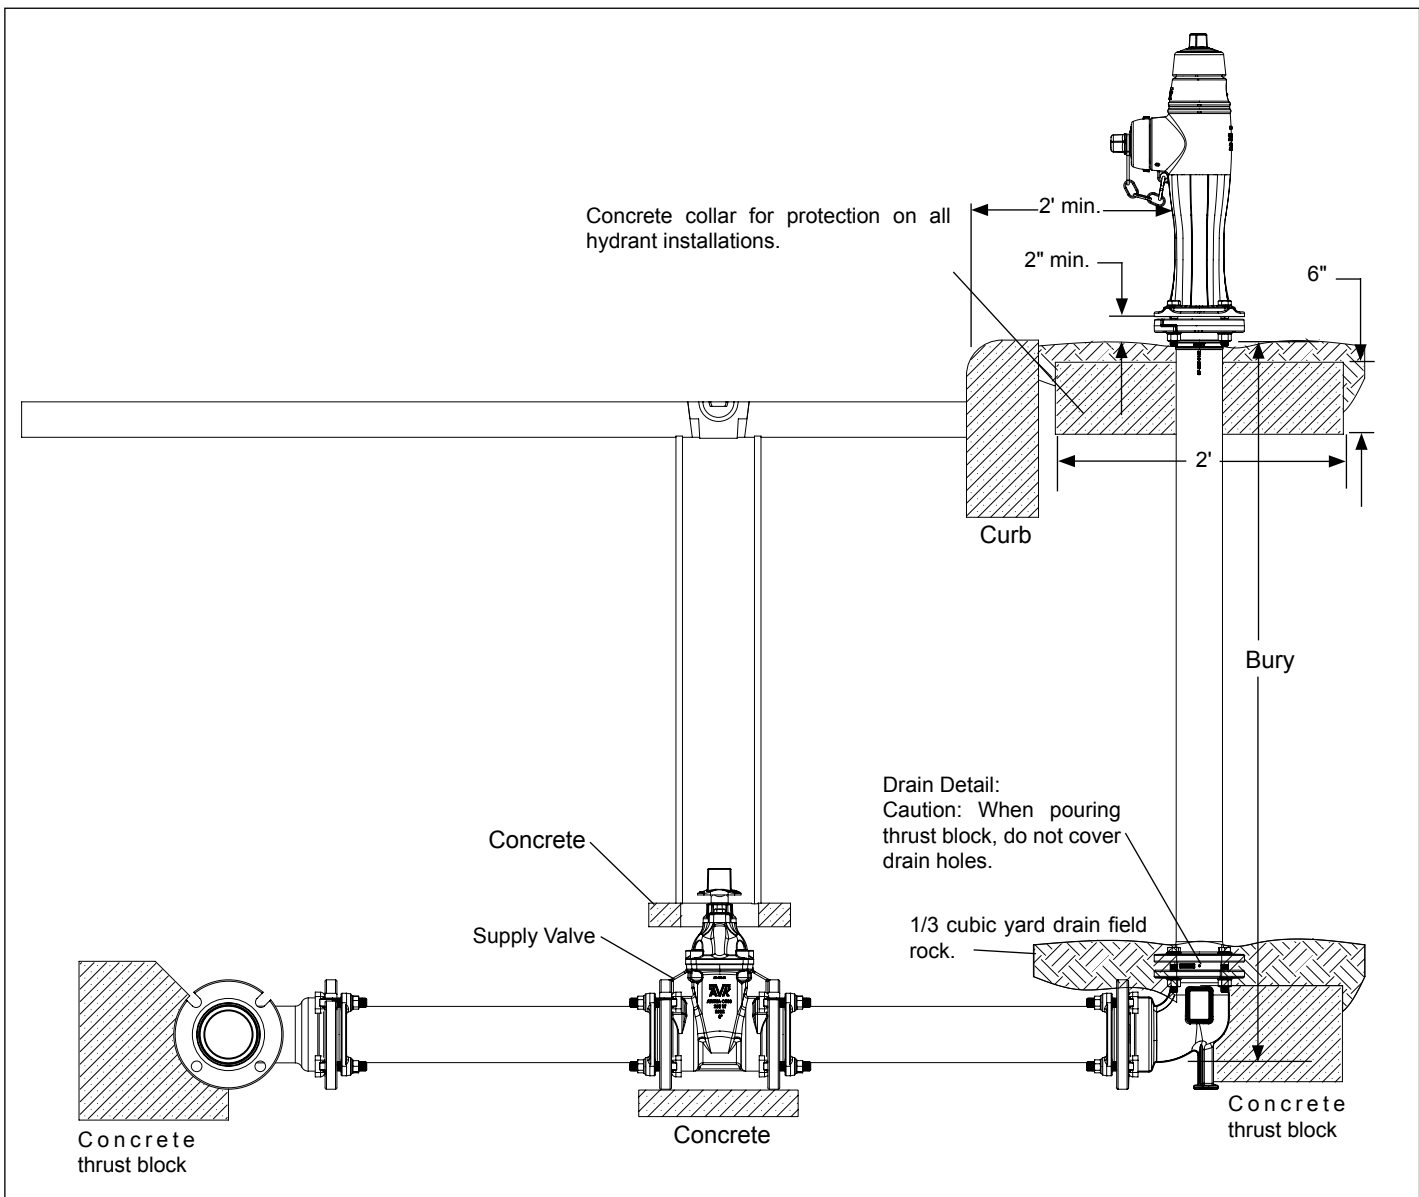

Fig. 1
2. Install AVK Series 67 Post hydrants with the valve below the frost line and install adequate drainage, such as gravel. Support all hydrants in upright positions. All hydrants shall be installed plumb. Include a separate gate valve or curb valve and restraining joints in supply piping. Refer to Fig.1, Hydrant Installation.